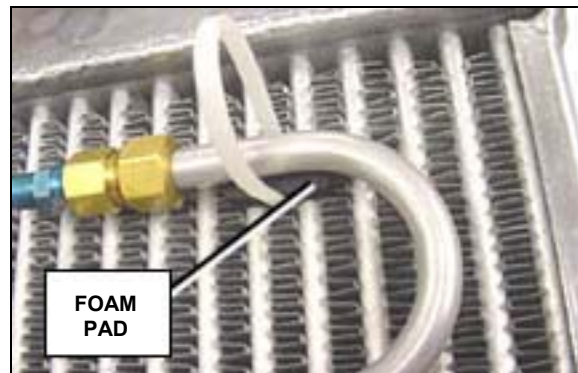

Figure 6
5. Place provided foam pads (19) under distribution bar and run provided zip ties (20) through intercooler core and secure bar to core (see figure 6). It is recommended to secure the bar in at least 2 locations.